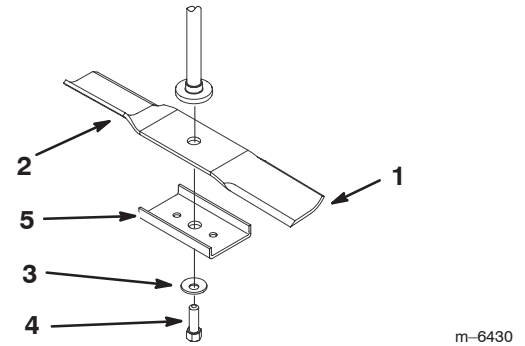

Figure 11
2. Remove the blade bolt, curved washer, blade stiffener, and blade from the spindle shaft (Fig. 11).
3. Install the blade onto the spindle shaft (Fig. 11).
4. Install the blade stiffener, the curved washer (cupped side toward the blade) and the blade bolt (Fig. 11). Torque the blade bolt to 35–65 ft-lb (47–88 N·m).